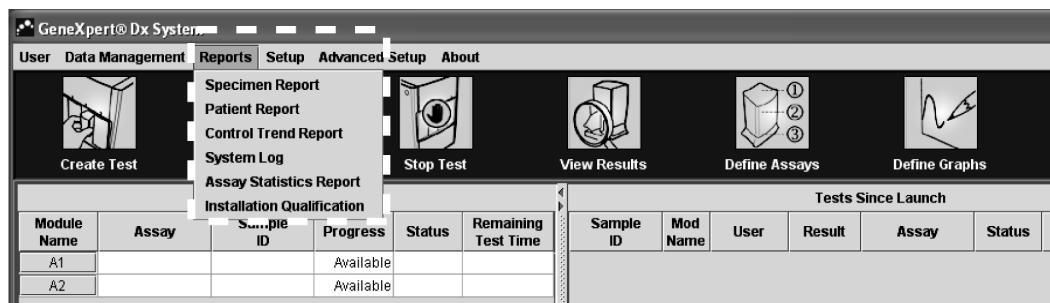
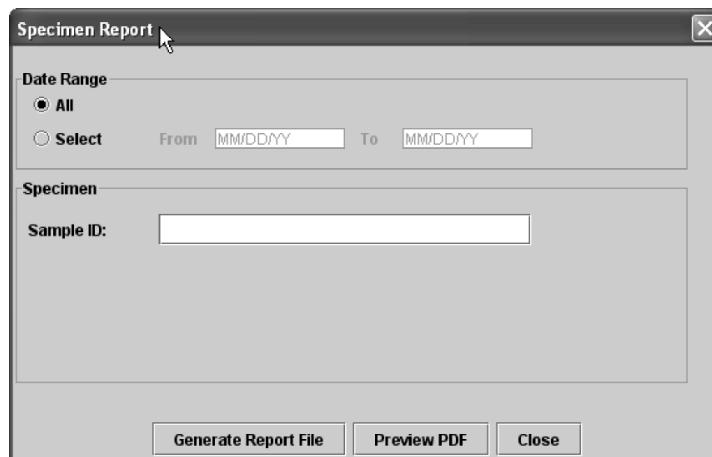
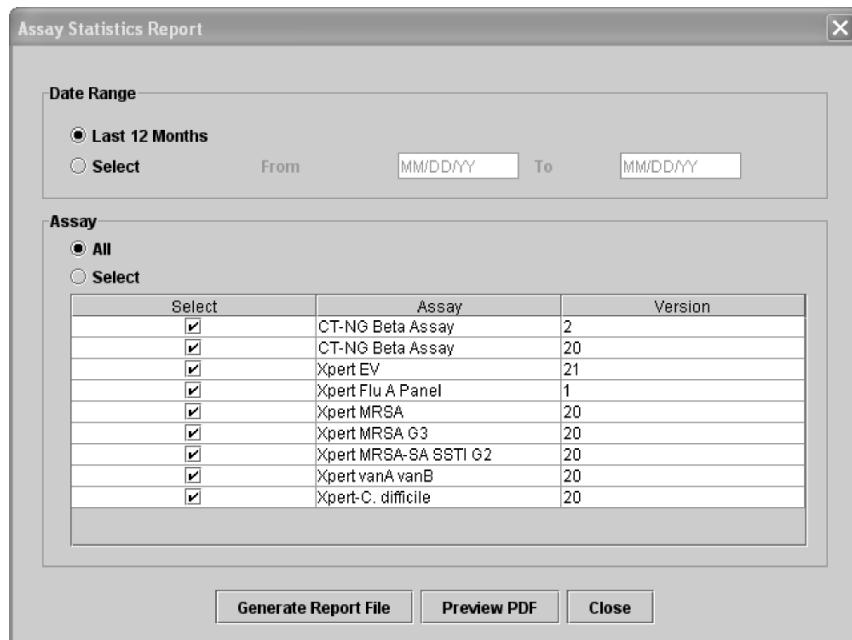

Figure 5-52. GeneXpert Dx System—Reports drop-down menu
Figure 5-53. Specimen Report dialog box
Figure 5-57. Assay Statistics Report dialog box
The **Reports** menu (Figure 5-52) provides the following menu options:
1. In the GeneXpert Dx System window, on the Reports menu (Figure 5-52), click Specimen Report. The Specimen Report dialog box appears (Figure 5-53).
1. In the GeneXpert Dx System window, on the Reports menu (Figure 5-52), click **Patient Report**. The Patient Report dialog box appears (Figure 5-55).
1. In the GeneXpert Dx System window, on the **Reports** menu (Figure 5-52), click **Assay Statistics Report**. The Assay Statistics Report dialog box appears (Figure 5-57).